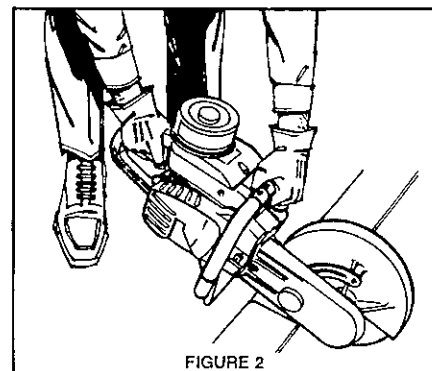

FIGURE 2
8. **DO** always hold the machine with both hands when the engine is running. Use a firm grip with thumbs and fingers encircling the handles (Fig. 2).